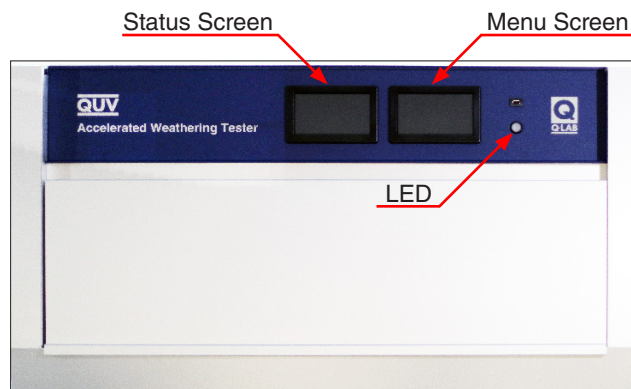

Figure 11.1a: Touch-screens and LED locations.
- Two touch-screen monitors mounted on the QUV control panel are used to control tester operation and the display of test status (Figure 11.1a).